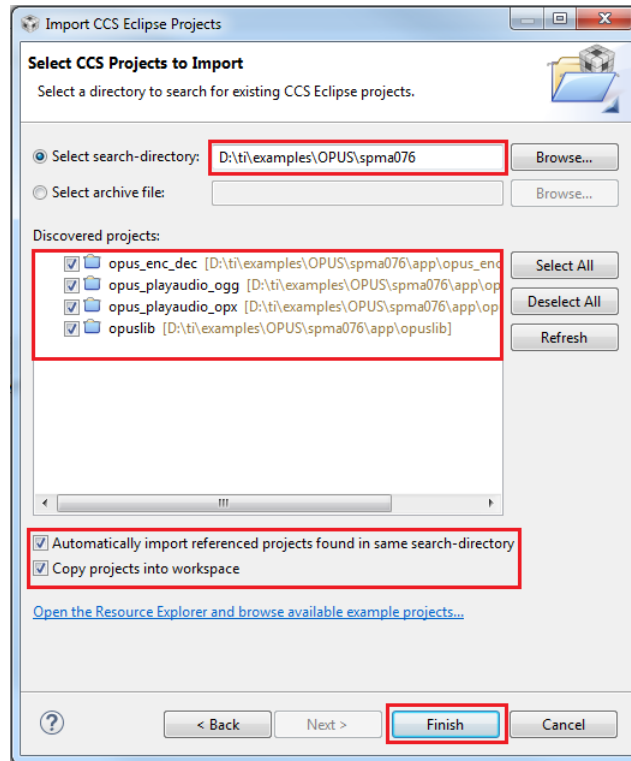

Figure 3. Import the Examples
- Click the *Browse* button in front of *Select search-directory* option and navigate to the directory where the project collateral has been extracted. Select all the projects that are listed in the *Discovered projects* pane. Make sure that the check-boxes in front of *Automatically import referenced projects found in same search-directory* and *Copy projects into workspace* are checked (see Figure 3). Now click on *Finish* button. This will import the examples into CCS.